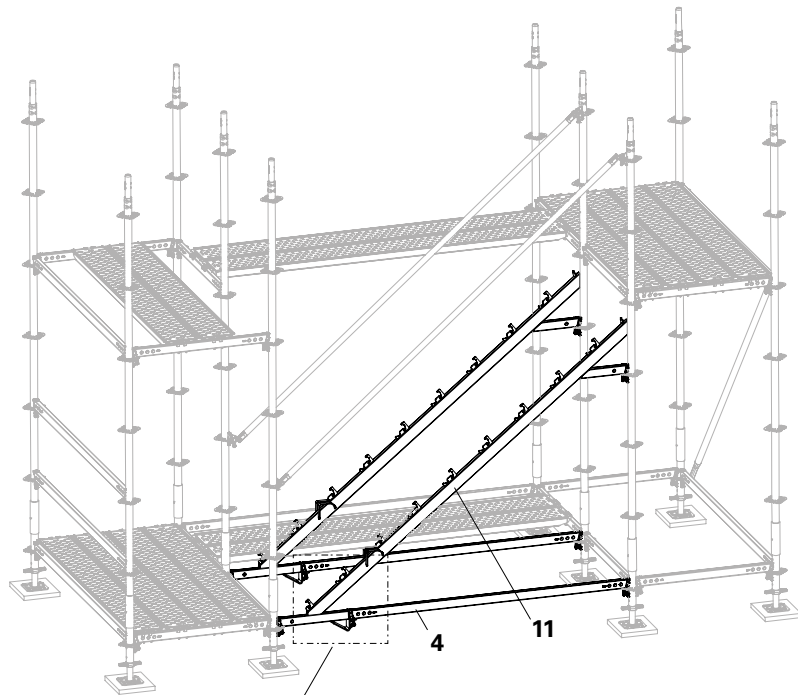

Fig. A2.06
3. Brace with two Horizontal Ledgers UH-2 200 (**4**), secure the wedges. (Fig. A2.06)